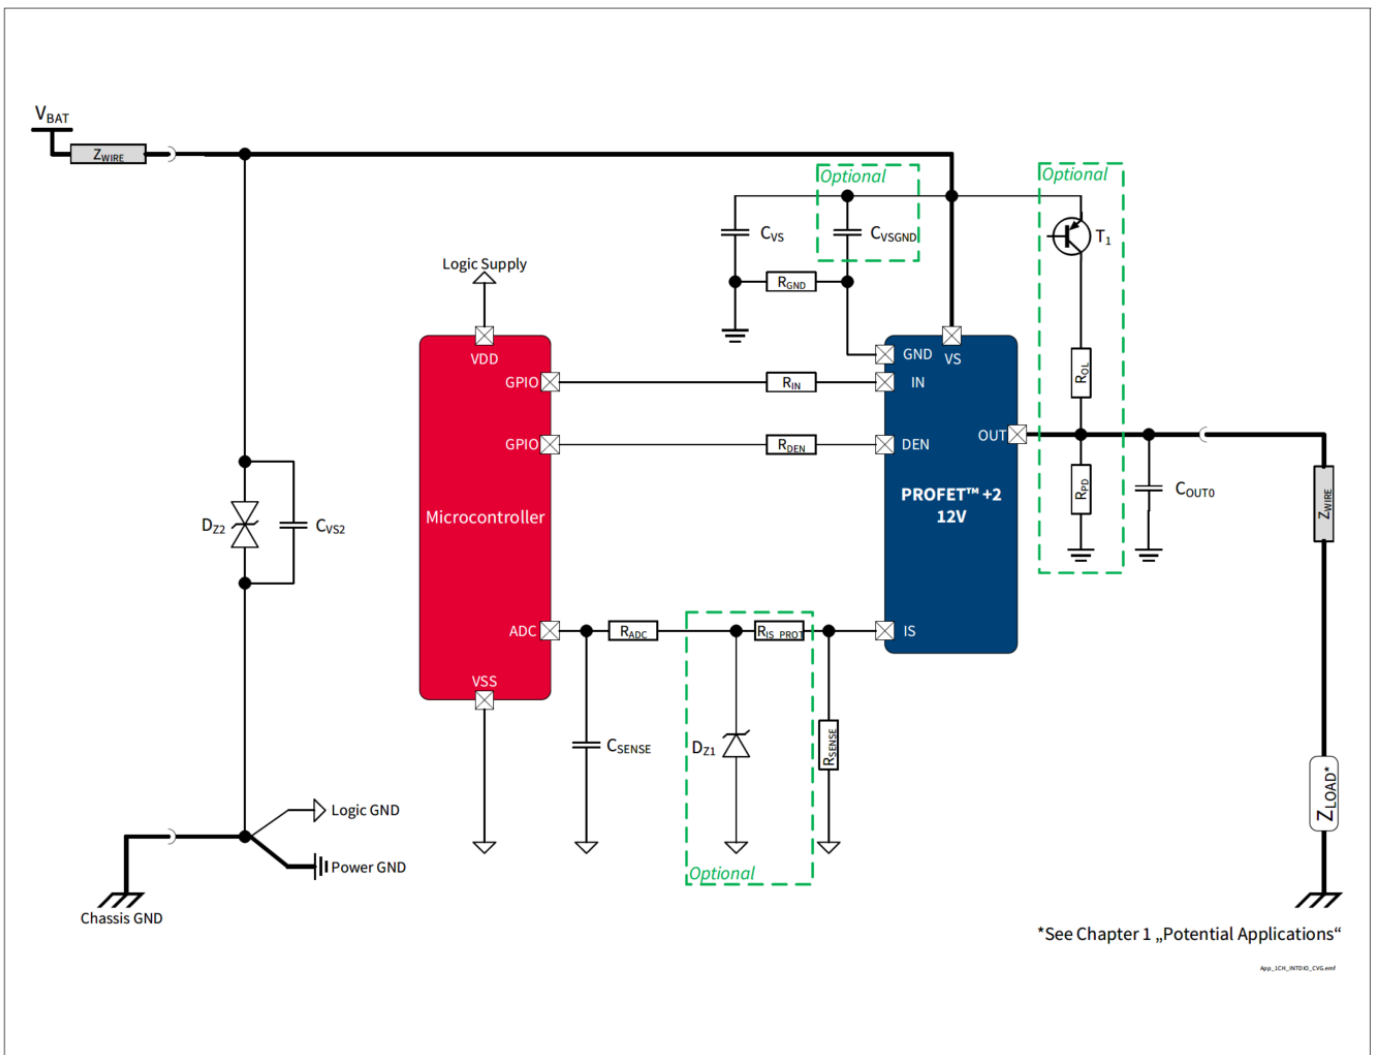

Figure 37 BTS7004-1EPP Application Diagram
1.10, 2020-12-14	<p>Typo fixed (PROFET™+2 → PROFET™ +2)</p> <p>Figure 1, Figure 16, Figure 17, Figure 18, Figure 20, Figure 21, Figure 22, Figure 25, Figure 29, Figure 30, Figure 34, Figure 37 updated</p> <p>Chapter 1, Chapter 6.1, Chapter 6.1.3, Chapter 6.1.4, Chapter 8.2, Chapter 9.2.2 updated</p> <p>Chapter 8.4.1 updated (typo fixed)</p> <p>P_7.4.5.1, P_7.4.5.2, P_7.4.5.3, P_7.4.5.4, P_7.4.5.6, P_7.4.5.7 updated (added in Note or Test Condition: See Figure 15)</p> <p>P_8.6.4.1 updated (added in Note or Test Condition: See Figure 26)</p> <p>P_8.6.4.2 updated (added in Note or Test Condition: See Figure 27)</p> <p>P_9.6.0.6 updated (Parameter: SENSE Operative Range for <math>k_{ILIS}</math> Operation (<math>V_S - V_{IS}</math>) → Saturation Voltage in <math>k_{ILIS}</math> Operation (<math>V_S - V_{IS}</math>))</p> <p>P_9.6.0.7 updated (Parameter: SENSE Operative Range for Open Load at OFF Diagnosis (<math>V_S - V_{IS}</math>) → Saturation Voltage in Open Load at OFF Diagnosis (<math>V_S - V_{IS}</math>))</p> <p>P_9.6.0.8 updated (Parameter: SENSE Operative Range for Fault Diagnosis (<math>V_S - V_{IS}</math>) → Saturation Voltage in Fault Diagnosis (<math>V_S - V_{IS}</math>))</p>
1.03, 2019-10-15	<p>P_6.5.21.1 updated (Typ.: 0.01 <math>\mu</math>A → 0.05 <math>\mu</math>A)</p> <p>P_8.7.11.1, P_8.7.11.7, P_8.7.11.8 updated (added in Note or Test Condition: link to Figure 24)</p> <p>P_7.5.11.5 updated (added in Note or Test Condition: see Figure 18)</p> <p>P_7.5.11.12 updated (added in Note or Test Condition: see Figure 20; deleted unnecessary space in Symbol:  dVOUT / dt  →  dVOUT / dt )</p> <p>P_8.7.11.6 updated (added in Note or Test Condition: see Figure 25)</p> <p>P_9.7.11.1 updated (added in Note or Test Condition: see Figure 32)</p> <p>Figure 1, Figure 37 updated</p> <p>P_4.3.0.7 added</p> <p>Table 22 updated</p> <p>Chapter 5.1 updated (added: see Chapter 10 for the complete application setup overview)</p>
1.01, 2019-02-05	<p>Figure 9, Figure 10 updated</p> <p>P_7.5.11.10 updated (Min./Typ./Max.: - / - / 10 <math>\mu</math>A → - / - / 15 <math>\mu</math>A)</p> <p>Page 1: updated (figure product)</p> <p>Table 22 updated (punctuation)</p> <p>Chapter 9.3, Chapter 9.3.1 updated (typo)</p> <p>Page 1: updated (Package PG-TSDSO-14-22 → Package PG-TSDSO-14)</p> <p>Figure 38 updated (PG-TSDSO-14-22 (Thin (Slim) Dual Small Outline 14 pins) Package Outline → PG-TSDSO-14 (Thin (Slim) Dual Small Outline 14 pins) Package Outline)</p> <p>Figure 39 updated (PG-TSDSO-14-22 (Thin (Slim) Dual Small Outline 14 pins) Package pads and stencil → PG-TSDSO-14 (Thin (Slim) Dual Small Outline 14 pins) Package pads and stencil)</p> <p>Table 1 updated (Parameter: Minimum Overvoltage protection (<math>T_J = 25\text{ }^\circ\text{C}</math>) → Minimum Overvoltage protection (<math>T_J \geq 25\text{ }^\circ\text{C}</math>))</p> <p>Table 1 updated (Symbol: <math>I_{VS(OFF)}</math> → <math>I_{VS(OFF)_85}</math>)</p> <p>P_6.5.21.1 updated (Symbol: <math>I_{VS(OFF)}</math> → <math>I_{VS(OFF)_85}</math>)</p> <p>P_6.5.21.2 updated (Symbol: <math>I_{VS(OFF)}</math> → <math>I_{VS(OFF)_150}</math>)</p> <p>P_4.2.11.3 updated (Note or Test Condition: → -)</p> <p>Figure Application Diagram, Figure 29, Figure 37 updated</p> <p>P_4.1.0.21, P_4.1.0.22, P_4.1.0.23, P_4.1.0.24 updated (footnote ESD standards)</p> <p>Table 1 updated (<math>R_{DS(ON)}</math> → <math>R_{DS(ON)_150}</math>), (<math>V_{DS(CLAMP)}</math> → <math>V_{DS(CLAMP)_25}</math>)</p> <p>Chapter 8.5.2 updated (phrasing)</p> <p>Chapter 6.4, Chapter 7.5, Chapter 8.7, Chapter 9.6 updated (added conditions)</p> <p>Figure 28 updated (Over Load → Overload, deleted bow)</p> <p>P_9.6.4.8, P_9.6.4.9 updated (removed line before the footnote)</p>